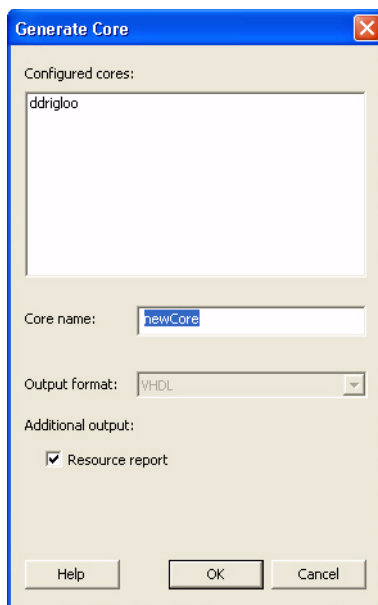

Figure 8-5 • Generate Core Window
5. Once the desired configuration is selected, click the **Generate** button. The Generate Core window opens (Figure 8-5).